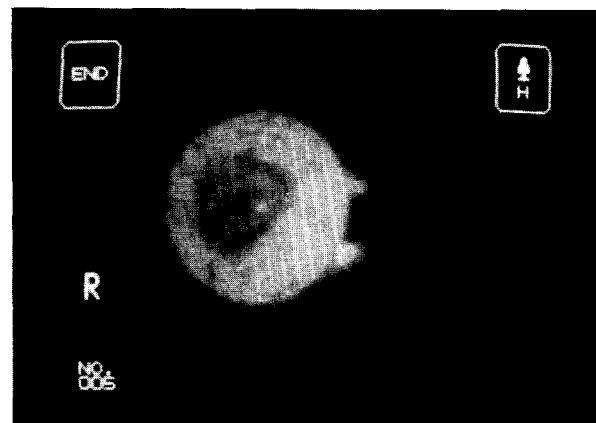

Figure 4-2 Enhanced Retro Illumination Image (Dynamic Image)
- ② Find a position where the foreign matter in the pupil can be seen clearly, and then press the start button. This allows you to observe the inside of the pupil for about two seconds on the screen as shown in Figure 4-2.